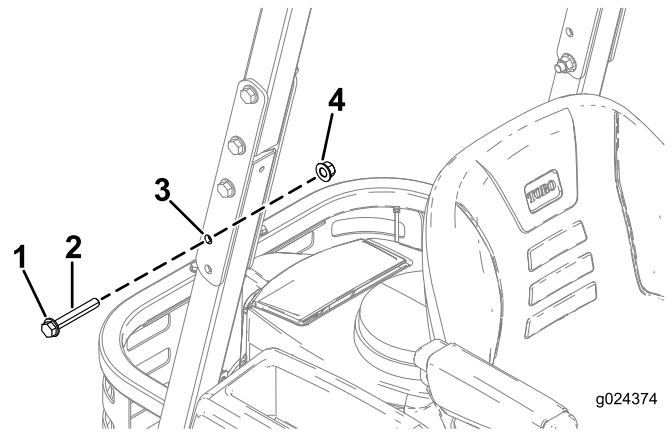

**Figure 3**
1. Remove the bolts (1/2 x 3 inches), washers, and nuts from the middle hole on the ROPS plate (Figure 3).
3. Install the bolts (1/2 x 3 inches), washers, and nuts removed previously into the middle hole (Figure 3).